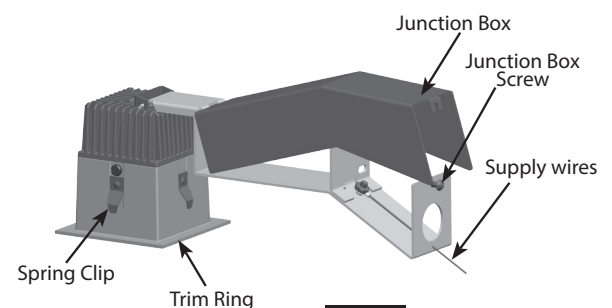

Fig: 2
6. Loosen the **Junction Box Screw** and open the **Junction Box** (*Fig.2*). Attach **Supply Wires** into **Junction Box** and connect to the fixture. See wiring section for details.
2. Loosen the **Junction Box Screw** and open the **Junction Box** (Fig.2). Attach **Supply Wires** into **Junction Box** and connect to the fixture. See wiring section for details.